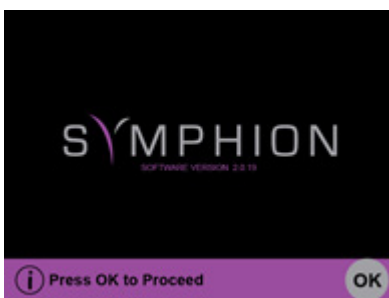

Figure 12
5. The Software revision will appear on the screen. Press OK to proceed (Fig. 12)